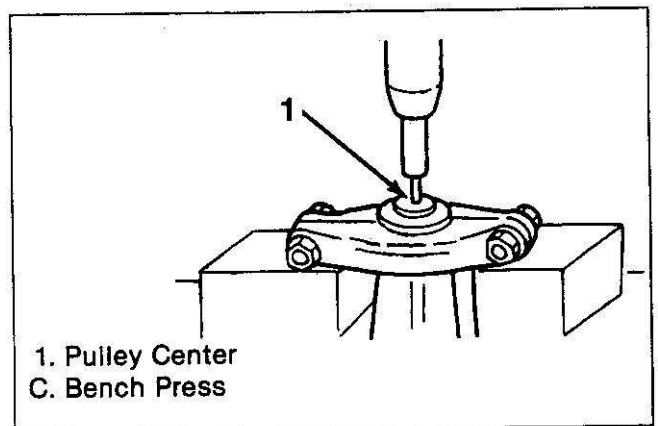

Figure 10. Removing Pulley Center
3. Pulley center (1) using a bench press and a suitable rod (figure 10).